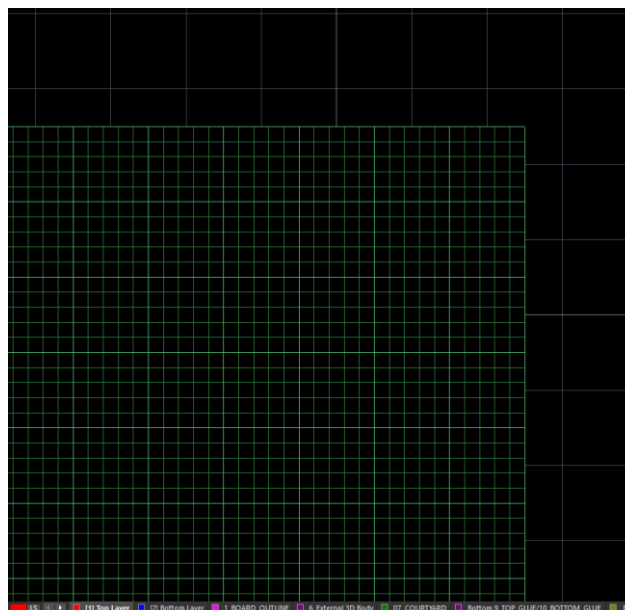

Figure 7. New Cartesian grid shows in Quadrants 1, 2, 3 and 4 in the PCB
25. Click **OK** to return to the PCB editor and note the presence of the new grid. Zoom accordingly to see the fine grid detail as shown in Figure 7 below.